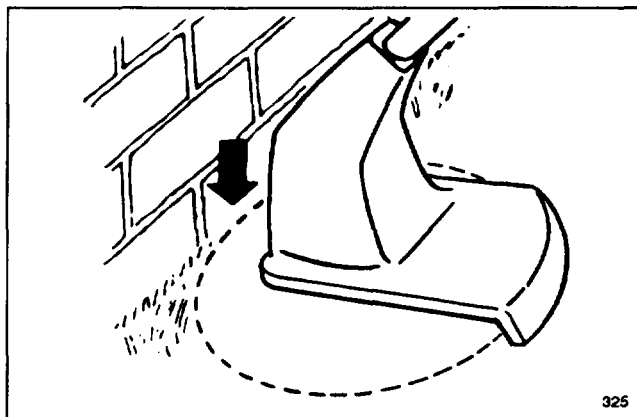

Figure 6
7. **DO NOT FORCE THE UNIT.** Allow the very tip of the nylon line to do the cutting (especially along walls) (Fig. 6). Cutting with more than the tip will reduce cutting efficiency and overload the motor.